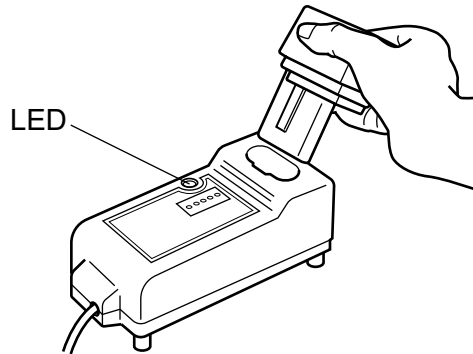

Fig. 5.2
- (d) Fig. 5.2 shows the charging unit for the power drill battery. A light emitting diode (LED) is used to indicate when the battery is being charged.